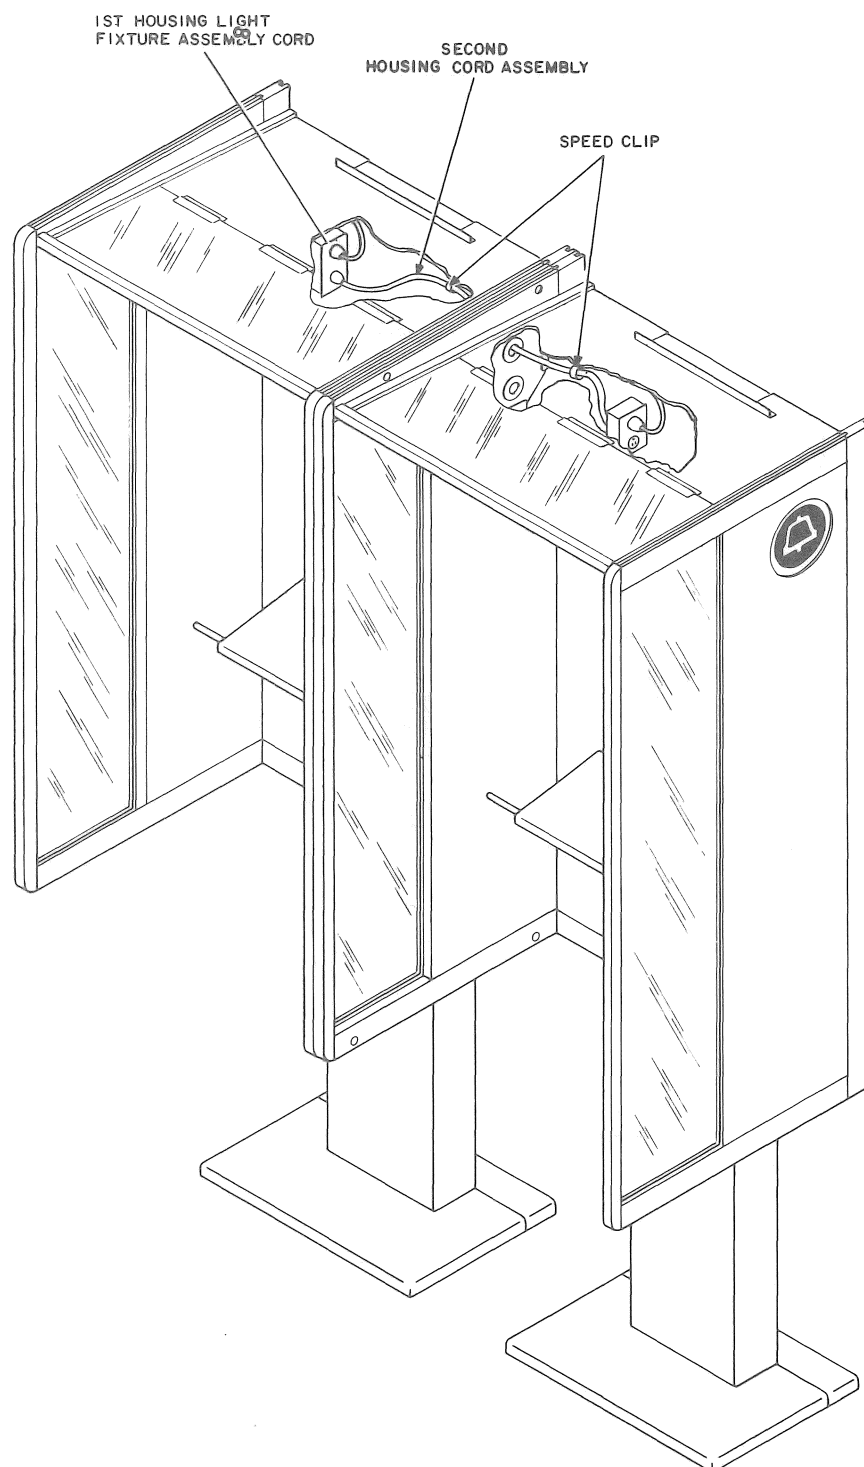

Fig. 26—Electrical Wiring Arrangement of Two List 32 Housings Installed Side-by-Side
4.19 When the List 32, 33, or 34 housings are installed side-by-side (two housings, Fig. 26), install the light control unit as follows:
outlet box plugs into the electrical outlet box of the first station at the same location as the first station light fixture cord (Fig. 26).